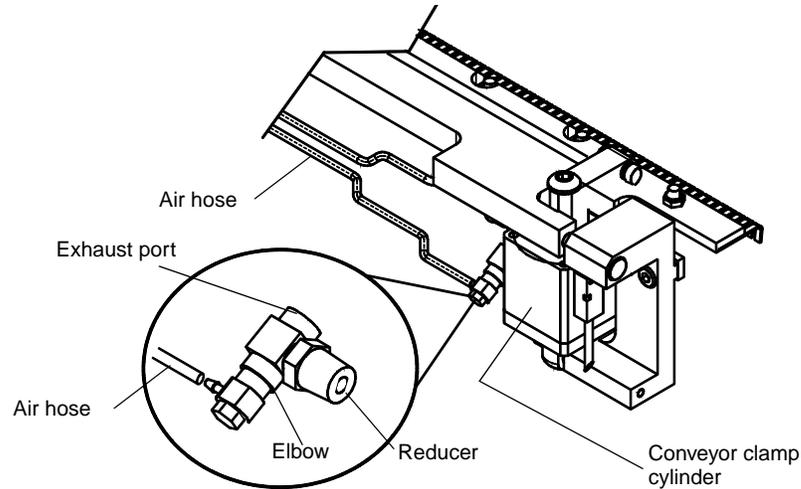

Figure 88. Conveyor Clamp Air Connections
4. Connect the fitting parts: elbow, exhaust port and reducer, creating an air fitting assembly as shown in Figure 88.